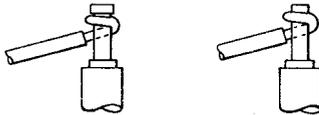

FIGURE 15. Stand-Off and Grooved-Type Terminal (Solder Not Shown)
- 11.03 *Stand-Off and Grooved Type Terminals*: Connect wires as shown in Figure 15, using one full turn of wire.